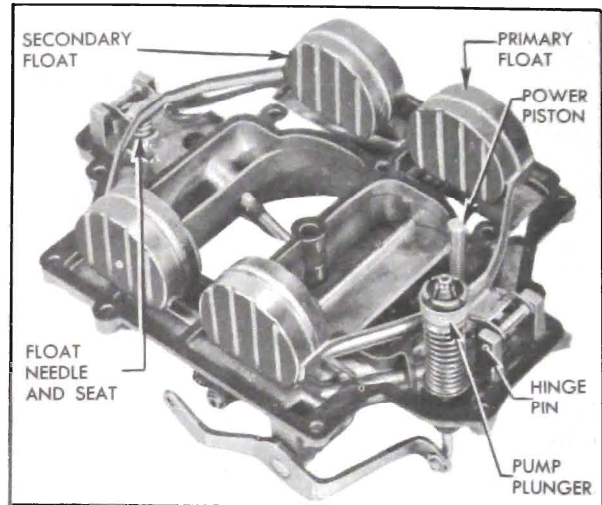

Figure 3-87—Air Horn Parts
6. Remove all air horn screws, then carefully lift air horn straight up from main body to avoid damaging floats, pump plunger, and vacuum power piston which are attached to air horn. See figure 3-87.
8. Remove float hinge pin, float, needle, needle seat, and gasket from pump side (primary). Then remove fuel inlet strainer. See figure 3-87.